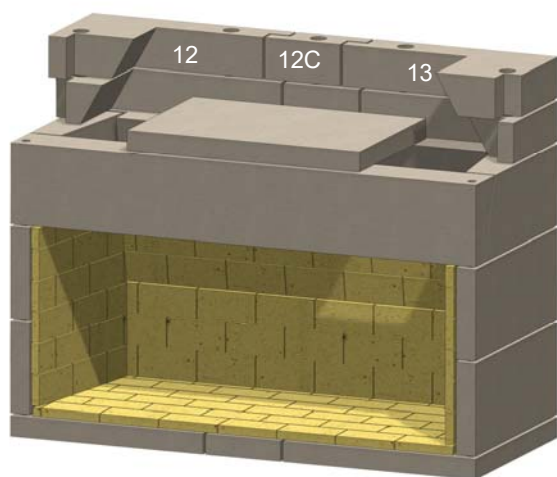

Figure 20. Middle Rear Throat
K. Install the middle level of rear throat pieces (items 12, 12C and 13). See Figure 20.